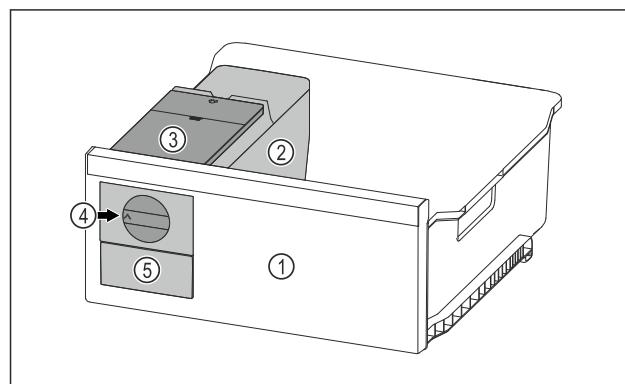

Fig. 148 Example illustration
- Turn the rotary knob Fig. 148 (4) clockwise as far as it will go.
- Ice cubes fall from the ice cube tray into the ice cube drawer Fig. 148 (5).